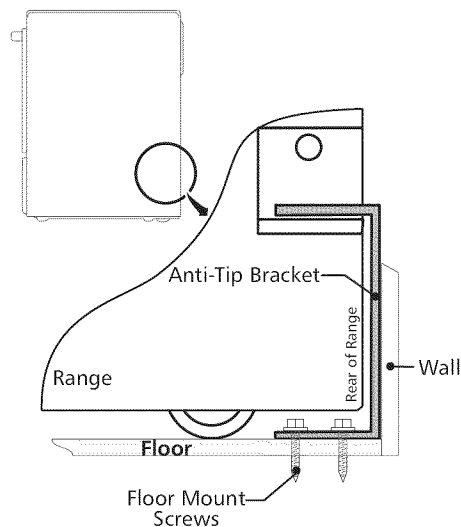

Figure 18
6. Slide range into place making sure structure of the range is trapped by the anti-tip bracket (Figure 18). Lower the range by adjusting the 4 leveling legs until the underside of the cooktop is sitting level on the countertop. Refer to "Leveling the Range" section.